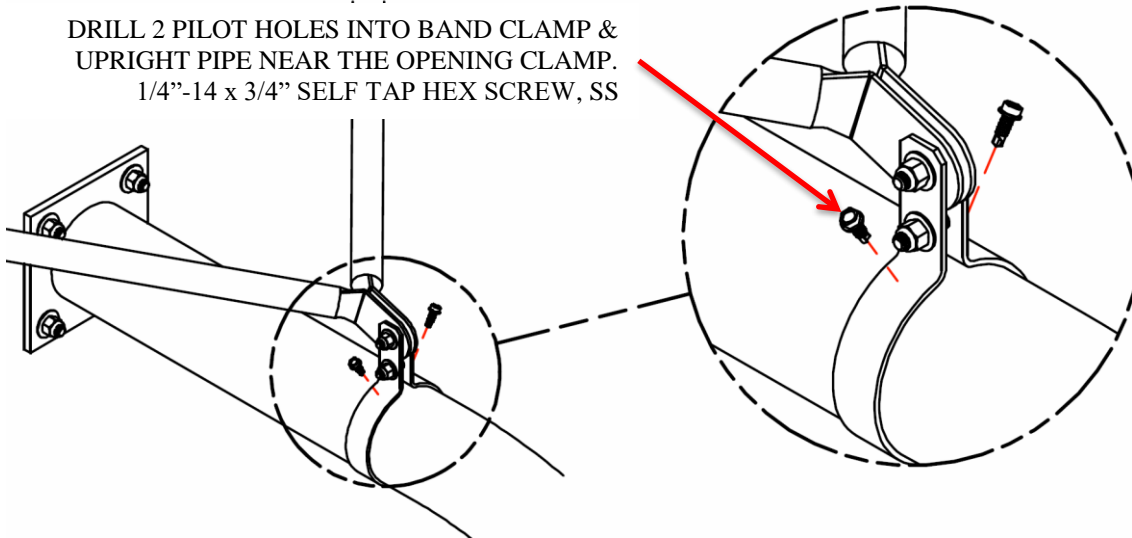

Figure 9
3. Maintain the plumb while assembling the band clamp to the upright pipe with 3/8" hardware. Lock the plumb in place by drilling 1/4" self-tap hex head screw into the two sides of the band clamp & upright pipe as shown (Figure 9).